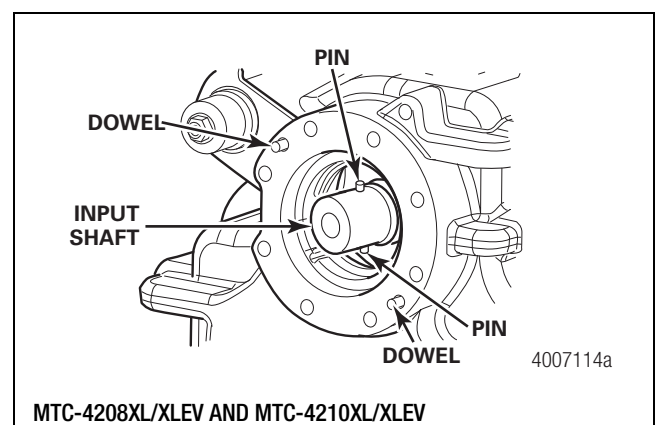

Figure 6.41
1. Verify that the drive pins are installed into the input shaft. Figure 6.41.